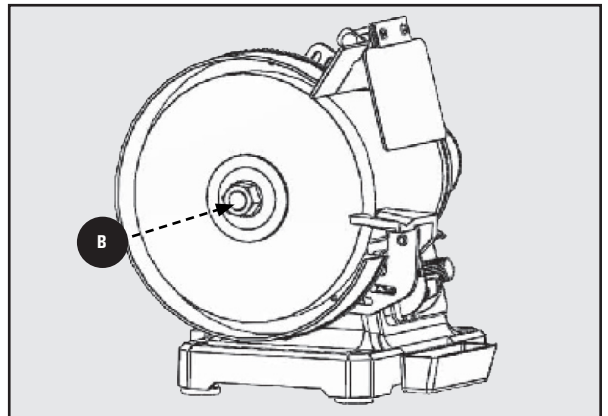

Figure 5
3. Using 24mm wrench, tighten the arbor nut (B) while using the other hand to keep the wheel from moving. Tighten the arbor nut snug. See Figure 5.